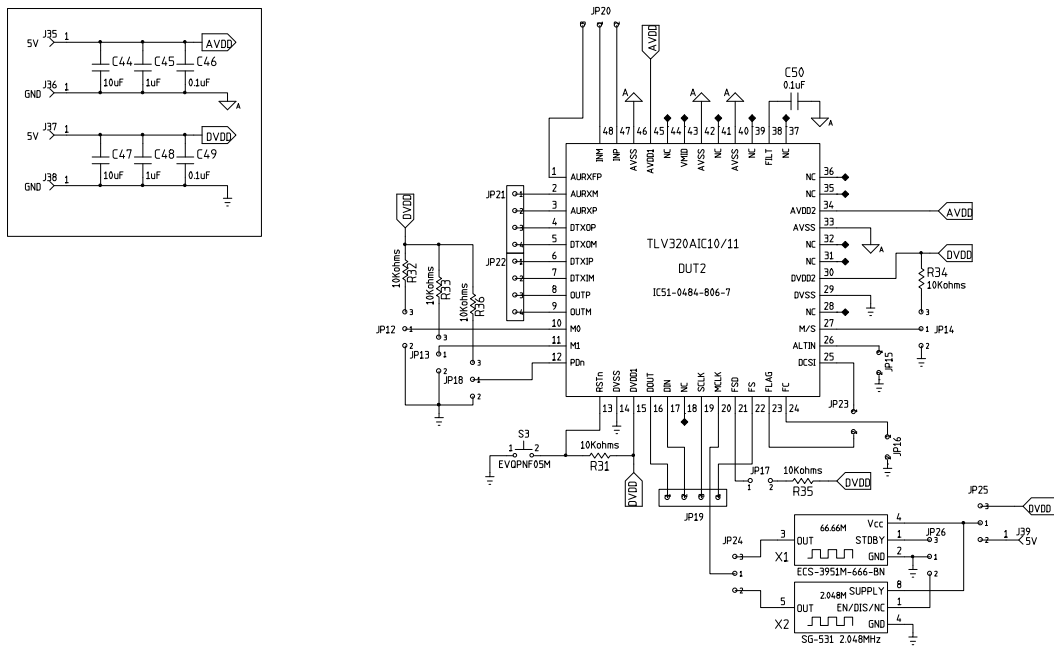

Figure 3: Pin configuration for the continuity board
The continuity board is provided for the students to test and a circuit diagram is also given with the pin configuration (see Figure 3). Tables are also given with the pin names listed in which the students fill in their data (see Table 1a); typical results recorded by a student during this lab are provided (see Table 1b). Post lab questions are required for this lab and they are as follows: (1) Compare measurement to the expected values in the data sheet, (2) Explain any errors in measurements, (3) Based on your analysis of the